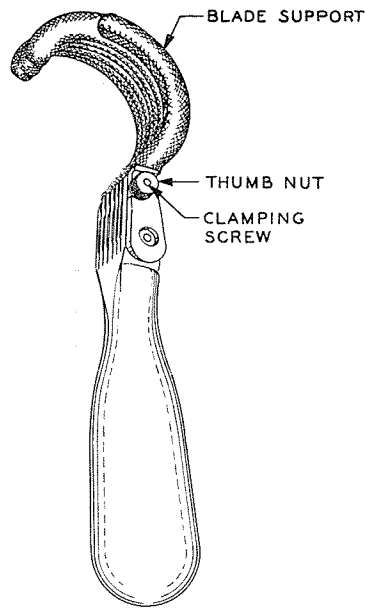

Fig. 8 - 517A Bank Contact Cleaner
(1) The 402- and 517-type bank contact cleaners consist essentially of a handle approximately 5 inches long, six flexible notched blades which fit into six slots at one end of the handle, and a rigid sleeved blade support. A screw extends through the slots in the handle, the upper notches in the blades, and the blade support if it is used. A thumb nut clamps these parts firmly together as shown in Fig. 8.
(2) The blade support is used to support the adjacent cleaning blade so that sufficient pressure can be exerted to properly clean the contacts of the top and bottom levels of a bank. The blade support can be located either under the screw or thumb nut so that it is above the top cleaning blade when cleaning the contacts of the top level, or below the bottom cleaning blade when cleaning the contacts of the bottom level. The blade support is anchored on a pin which protrudes about 1/16 inch from each side of the handle to